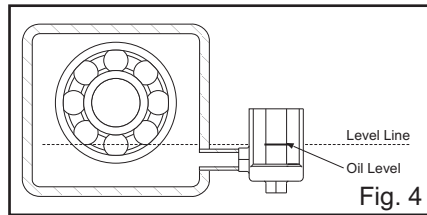

Fig. 4
7. From the oil level mark indicated on the equipment, use a level to put a mark on the outside of the Opto-Matic lower casting to indicate where the oil level should be (Fig 4).